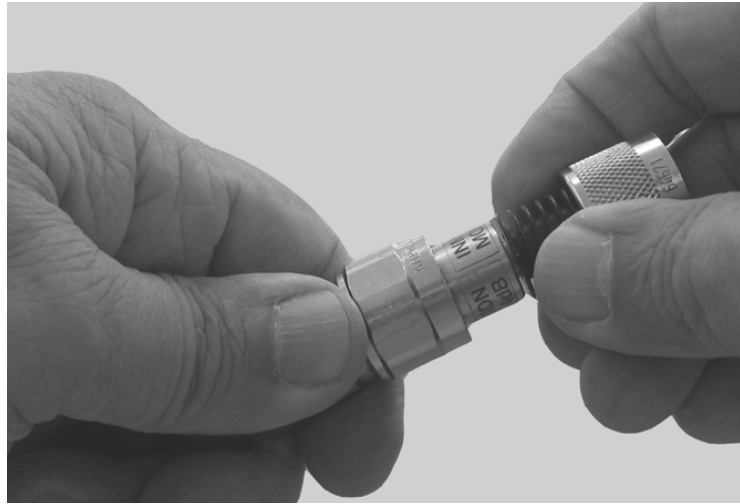

Figure 8 Connect RF N-type Load or Attenuator to Reader Cable End
1. Terminate the reader end of the grounding RF cable with any N-type load or RF attenuator (Figure 8).